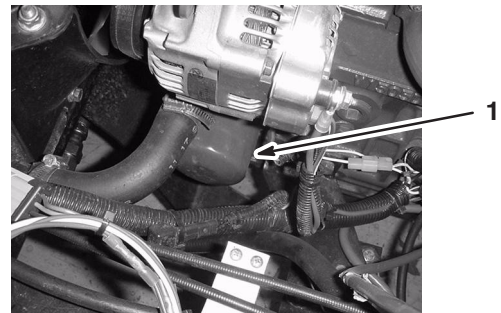

Figure 33
7. Remove the old oil filter (Fig. 33).
10. Install the replacement oil filter to the filter adapter. Turn the oil filter clockwise until the rubber gasket contacts the filter adapter, then tighten the filter an additional 1/2 turn (Fig. 33).